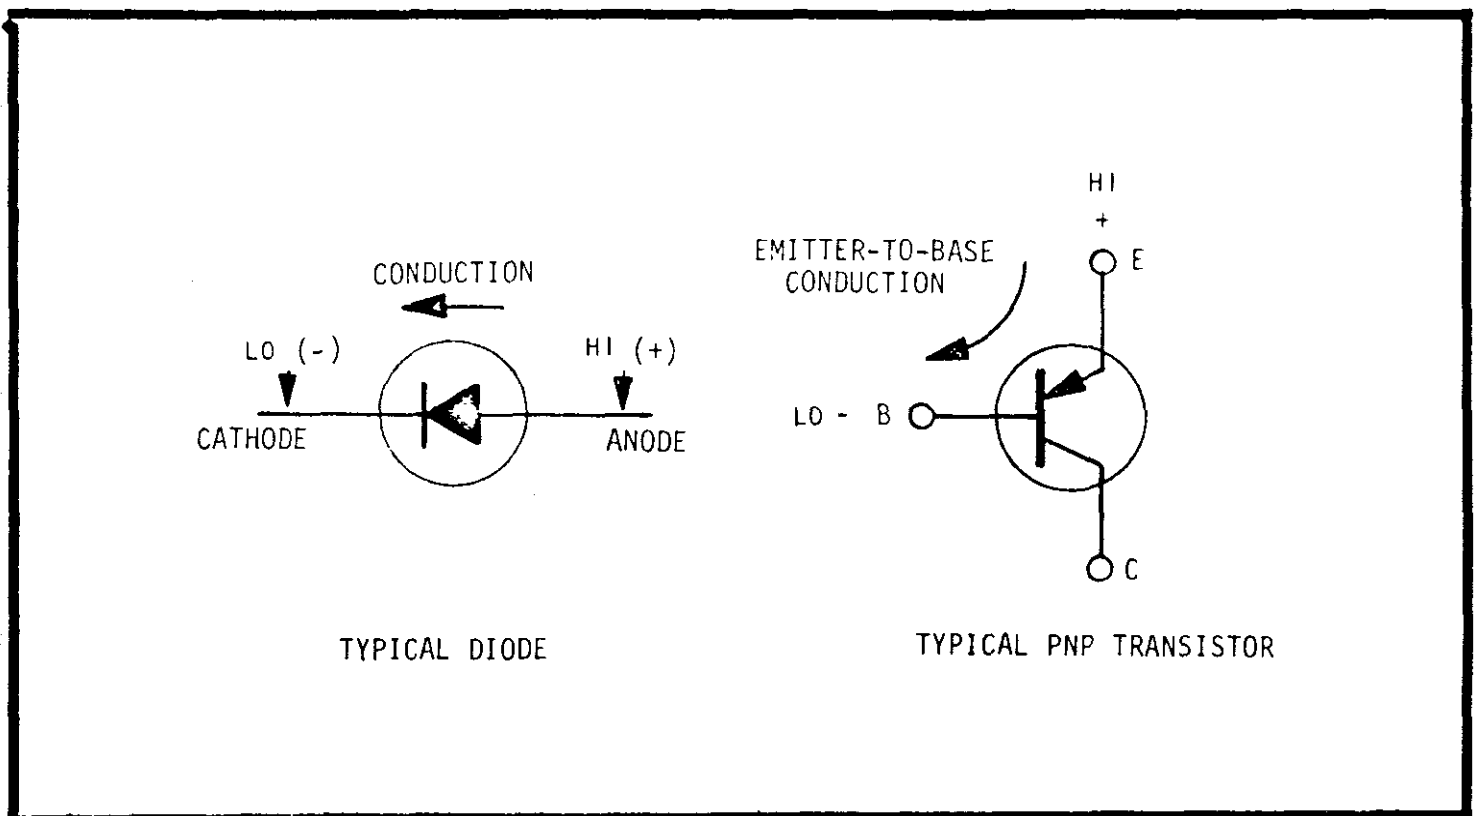

FIGURE 13. Semiconductor Diode and Transistor Testing.
5. Semiconductor Diode and Transistor Testing. The Model 172/173 can be used to test diodes and transistors to determine the relative condition of the device. For semiconductor diodes, the voltage applied must be sufficient to cause conduction in the forward direction. The "HI OHMS" mode provides a voltage up to 3 volts at a current up to 1 milliamperes. Since the HI terminal is positive with respect to LO terminal, connections should be made as shown in Figure 13 to cause forward conduction of diodes. Since the maximum current is available on the 3 K Ω range, depress AUTO/MAN (Set to MAN) and manually range to the 3 K Ω range (down-range).